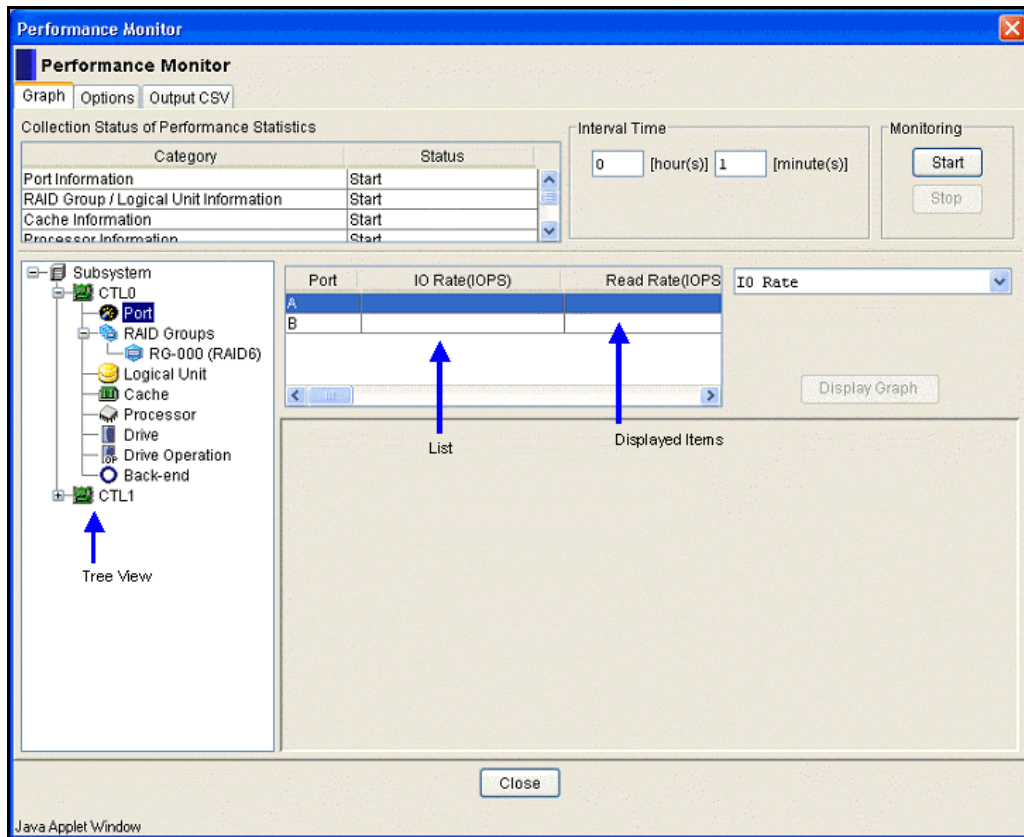

Figure 9-2: Performance Monitor Window — Graph Tab
2. Select the appropriate item, and click **Display Graph**. The Performance Monitor Graph window appears (see Figure 9-2 on page 9-6).